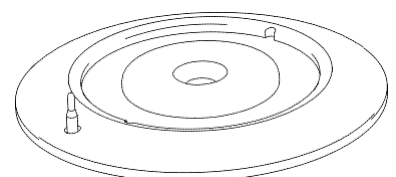
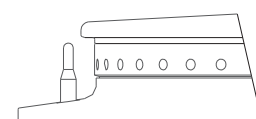

Figure 10 – Aluminium Burner Bezel
Figure 11 – Flame Sensor
3. Clean any spillage from aluminium bezel **(Fig 10)**, ensuring all food and cleaning material debris is removed. Dry aluminium bezel thoroughly, taking care not to damage flame sensor. **(Fig 11)**
Important - Do not allow any spillage or cleaning material debris to enter the large hole in the aluminium burner bezel. **(Fig 10)**